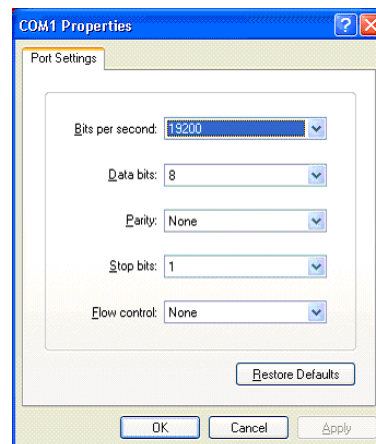

Figure 5-8: Serial Port Settings
6. Enter these settings for the serial port (Figure 5-8):